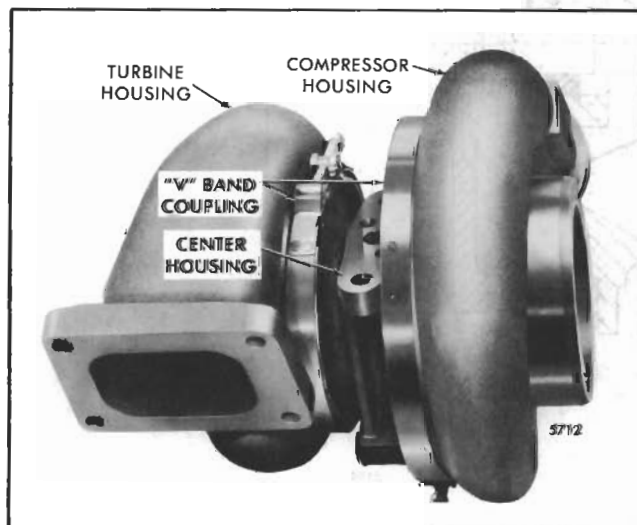

Fig. 1 - Typical Turbocharger Assembly
10. Insert the blower drive shaft through the blower drive hub and into the blower drive coupling (Fig. 1) and install the snap ring in the coupling. Then attach the flywheel housing cover to the flywheel housing.
The T18A40, T18A90, TV81 and T04B model turbochargers (Figs. 1 and 2) are designed to increase the over-all efficiency of the engine. Power to drive the turbocharger is extracted from the waste energy in the engine exhaust gas.